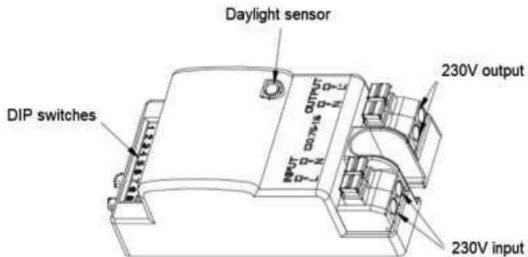

**Fig. 4**
- Choose the required driver output and colour temperature via the switches on the driver (see Fig. 4)